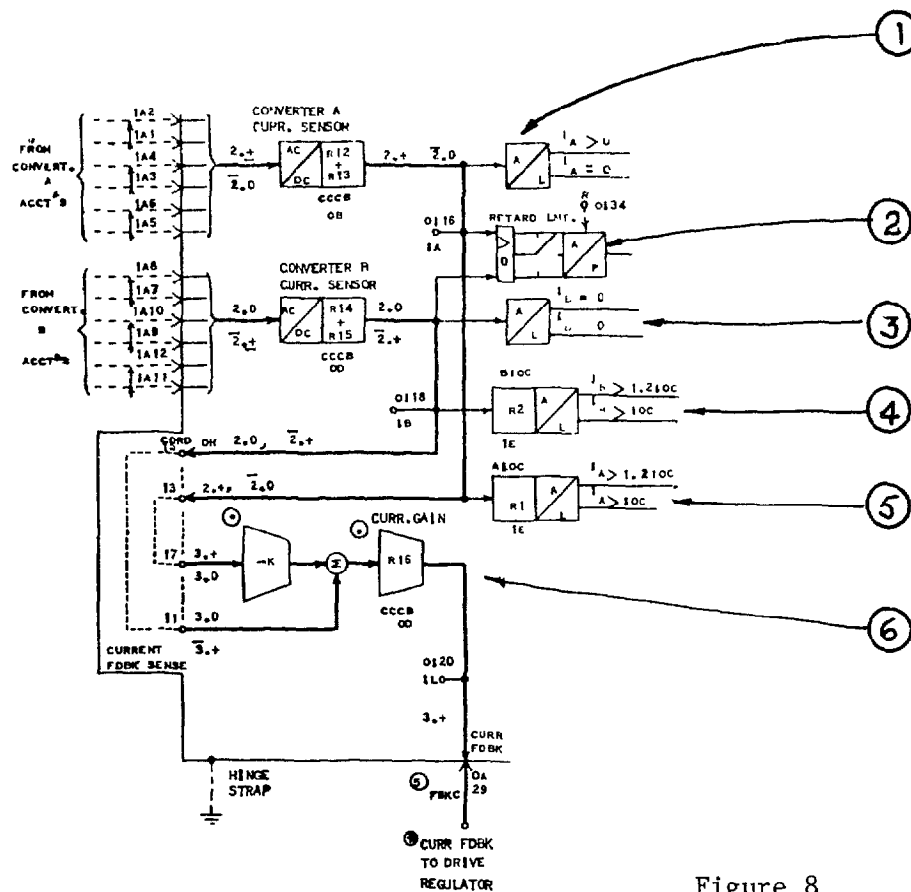

Figure 8
The outputs of the CT's are a-c and are rectified in the "AC/DC" "current sensor", as shown in the Figure 8. The nature of the CT is such that a burden resistor is required to attain a specific voltage at a specific a-c line current. These resistors (R12, R13, R14, and R15) are, therefore, selected on a per drive basis to obtain the desired output voltage for rated current.
To provide the necessary logic signals for the inverter limit and reversing logic circuitry various analog to logic signals are generated as shown in Figure 8 by symbols ① through ⑤.
① and ③ - These symbols show the generation of two logic signals each from the I_A and I_B analog signals.
⑥ - The outputs of A & B current sensors are positive voltages designated I_A and I_B and are used to generate I_L (the drive regulator current feedback signal) via two operational amplifiers. As connected on Figure 8 I_A is fed through a unity gain inverting amplifier and its output ($-I_A$) is summed with I_B . Since I_A and I_B are such that both cannot be present simultaneously, either $-I_A$ or I_B will drive the second amplifier. The gain of the second amplifier is adjustable by R16 on card CCCA slot 0D to give the desired output gradient.
With the coordination card connections as shown on Figure 8 and with current flowing in package A, I_L will be a positive voltage. With current flowing in package B, I_L will be a negative voltage. This sense can be inverted by changing the pin connections 15, 13, 17 and 11 on the coordination card.